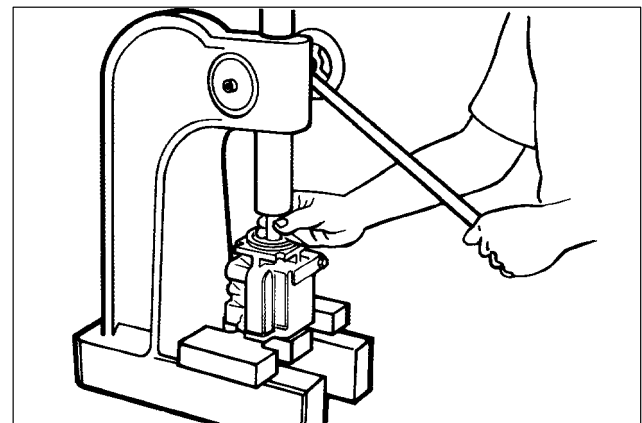

Figure 25: Removal of Front Bearing Race
1. Inspect valve block (8) for erosion, cracks, and burrs. Clean up minor burrs with an India stone. If erosion or cracks are found, replace the valve block.
2. Inspect roller bearing and bearing race (23) for nicks and pitting. Make sure the roller bearing turns freely within the bearing race. If the roller bearing needs replacement, both the roller bearing and the bearing race must be replaced. To remove bearing race from valve block, refer to Figure 25.
3. Inspect valve plate (21) for erosion, excessive wear, heavy scratches, and cracks. If any of the above conditions are found, replace the valve plate.
1. Inspect drive shaft (39) for wear, stripped splines, and burrs. Remove burrs with an India stone. Inspect the contact area of bearing (44) and shaft seal (46). Replace the drive shaft if wear or scoring is greater than 0.005 T.I.R. (total indicator reading).
2. Inspect drive shaft bearing (44) for roughness, pitting of rollers, and excessive end play. Replace, if defective. If the bearing needs to be replaced, the bearing race inside housing (51) also requires replacement. To remove the bearing race from the housing, refer to Figure 25.
3. Inspect housing (51) mounting flange for nicks and burrs. Remove minor nicks and burrs with an India stone. Also check the housing for damaged or stripped threads. If any thread is damaged, replace the housing.